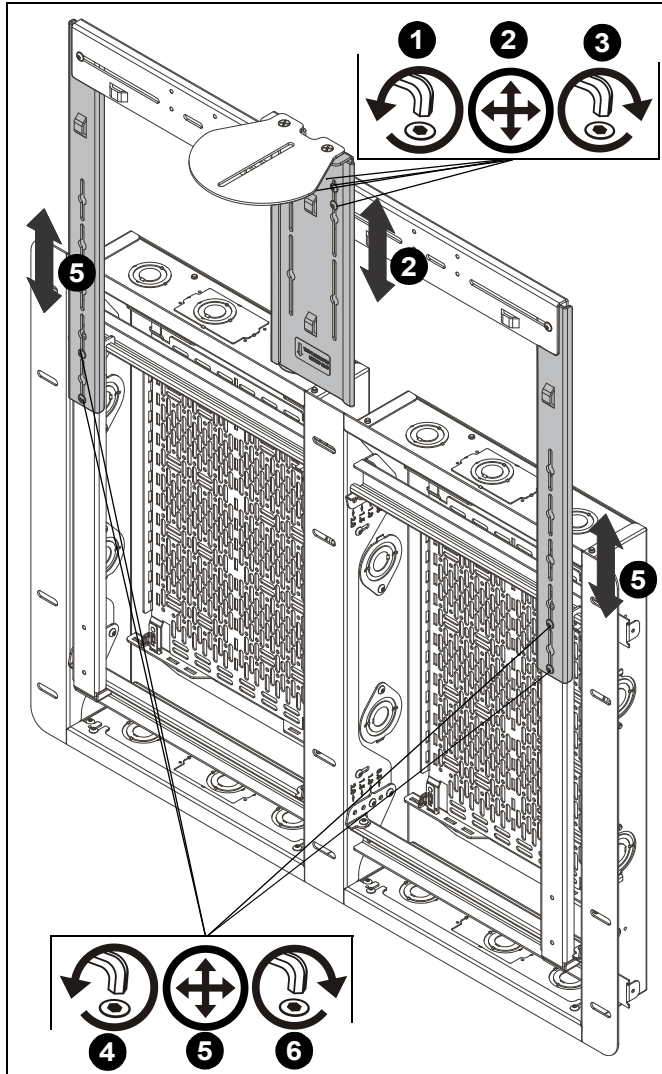

Figure 13
1. Loosen screws on micro height-adjustment bracket. (See Figure 13)
2. Adjust to desired height. (See Figure 13)
3. Tighten screws on micro height-adjustment bracket. (See Figure 13)
4. Loosen screws on macro height-adjustment brackets. (See Figure 13)
5. Adjust to desired height. (See Figure 13)
6. Tighten screws on macro height-adjustment brackets. (See Figure 13)